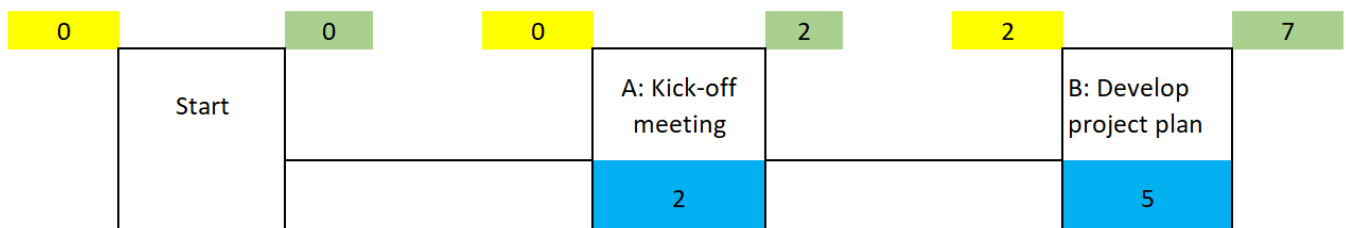

Figure 6. Early finish (EF) times (values with green background colour) are indicated outside the top right corner of the nodes
The early finish time denotes the earliest time that an activity can finish if all the previous activity start date are not delayed. Consider activities A and B in Figure 6; the early finish times were calculated by adding the ES to the duration. The early finish time of activity A is 2. Therefore, the ES of activity A (0) has been added to its duration of 2 days, that is, $0 + 2 = 2$. Similarly, the early completion time of activity B is 7. Therefore, ES (2) has been added to its duration of 5, that is, $2 + 5 = 7$. Needless to state, if the kick-off meeting, for some reason or another, starts a day after its planned commencement date, the early finish times of all succeeding activities are compromised. In such a scenario, the project team can focus their gaze on late start and late finish times (discussed in the next section).